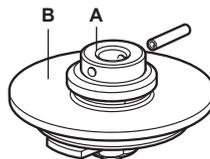

Fig. 4 DN125 shown
- (See Figure 4) The pre-lifting plug (A) acts as a pilot valve and is opened first, allowing the medium to pass through at a controlled rate. The differential pressure then reduces across the valve - allowing the main valve plug (B) to be easily lifted off its seat. To assist closing the valve the flowing medium must enter on the 'Bellows' side, this is the opposite to normal installation.